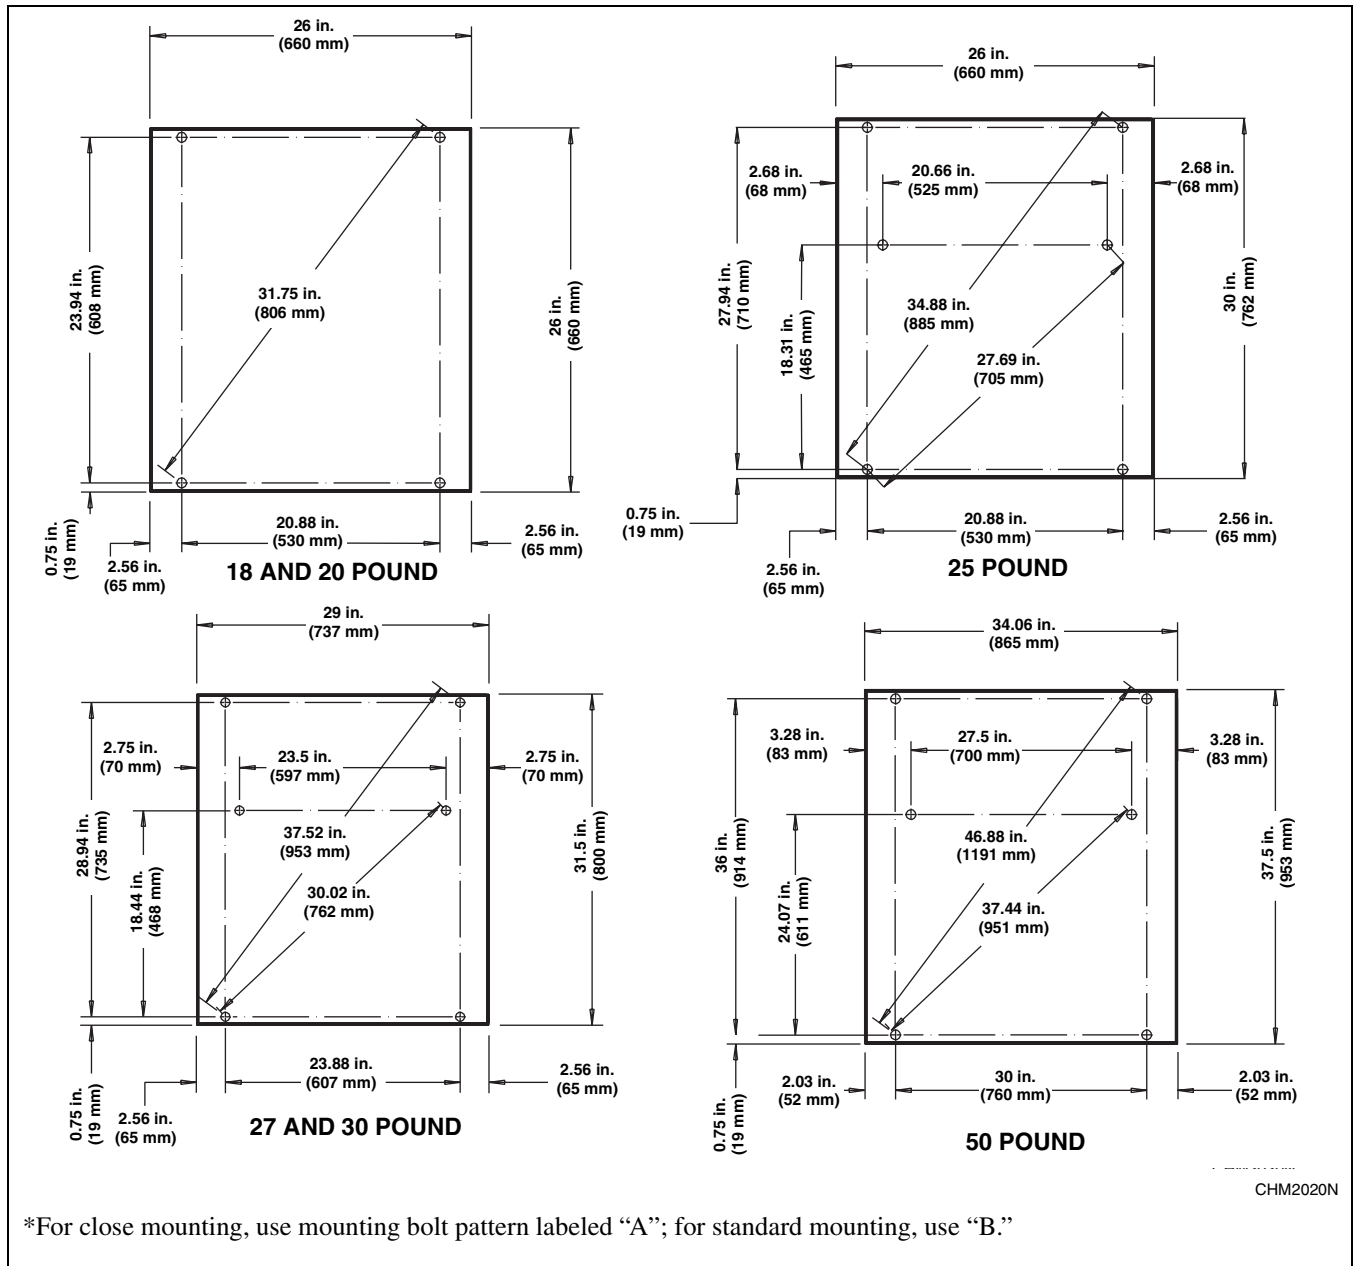
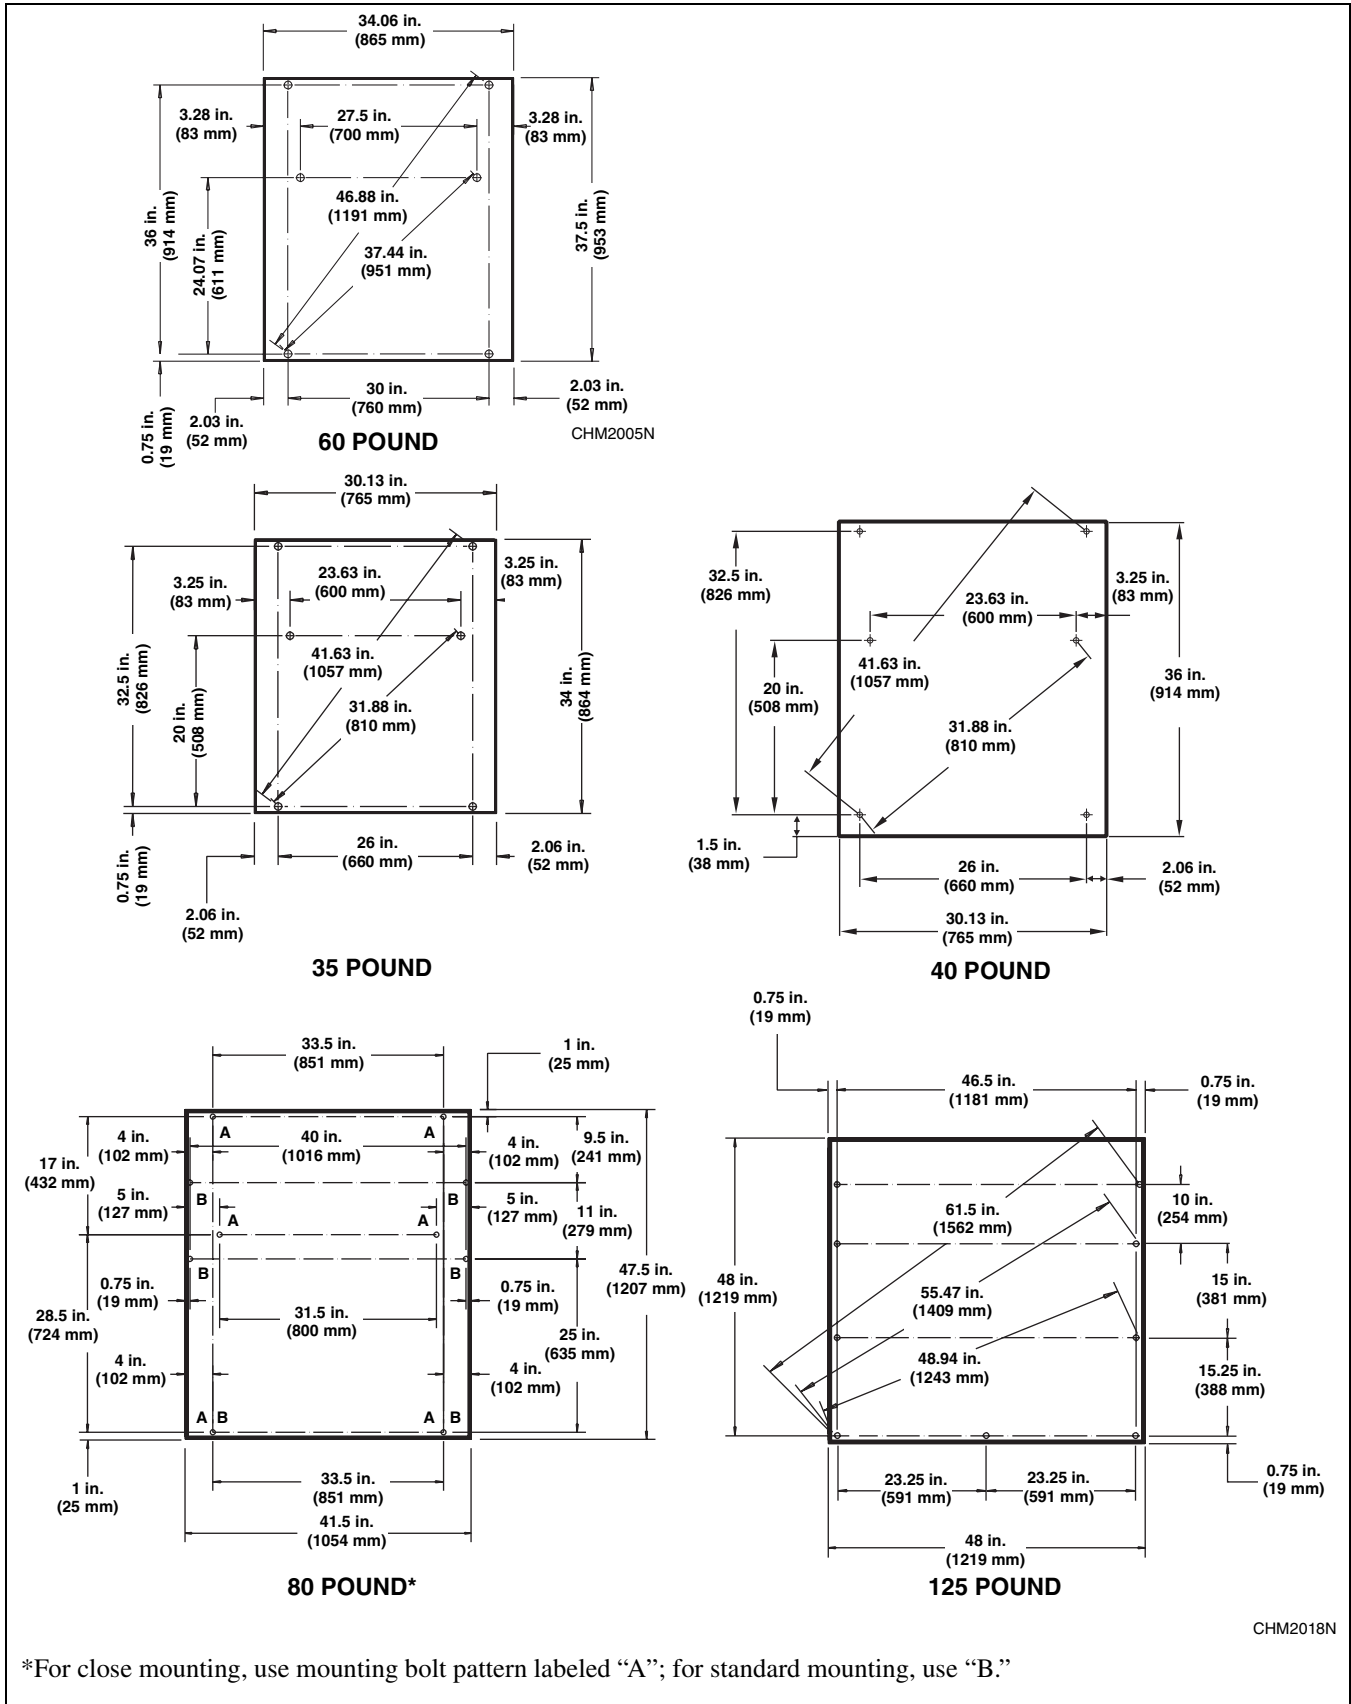

Figure 18
Figure 19
2. Install J-bolts in concrete as shown in the mounting bolt layouts (*Figure 18* and *Figure 19*) following these instructions.
**NOTE: There are two different mounting bolt layouts which may be used for the 80 pound capacity machine. Refer to *Figure 19*. The bolt holes marked "A" are to be used for close mounting – machines installed with a 1 inch (25.4 mm) clearance between machines. The bolt holes marked "B" are to be used for standard mounting – machines installed with a minimum clearance of 8 inches (203 mm) between machines.**